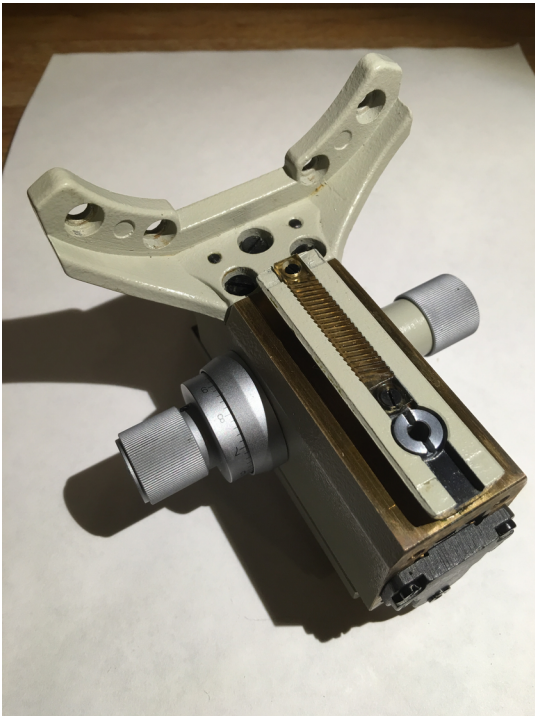

Figure 5
* Remove the two screws that fasten the flat clear plastic gear atop the dovetail track. Note the position of the ends of the plastic gear, because they are different. Also note that the screw heads are different on the underside– one is beveled and the other is flat. The holes in the plastic gear are countersunk to correspond to those screws. (Figure 5)